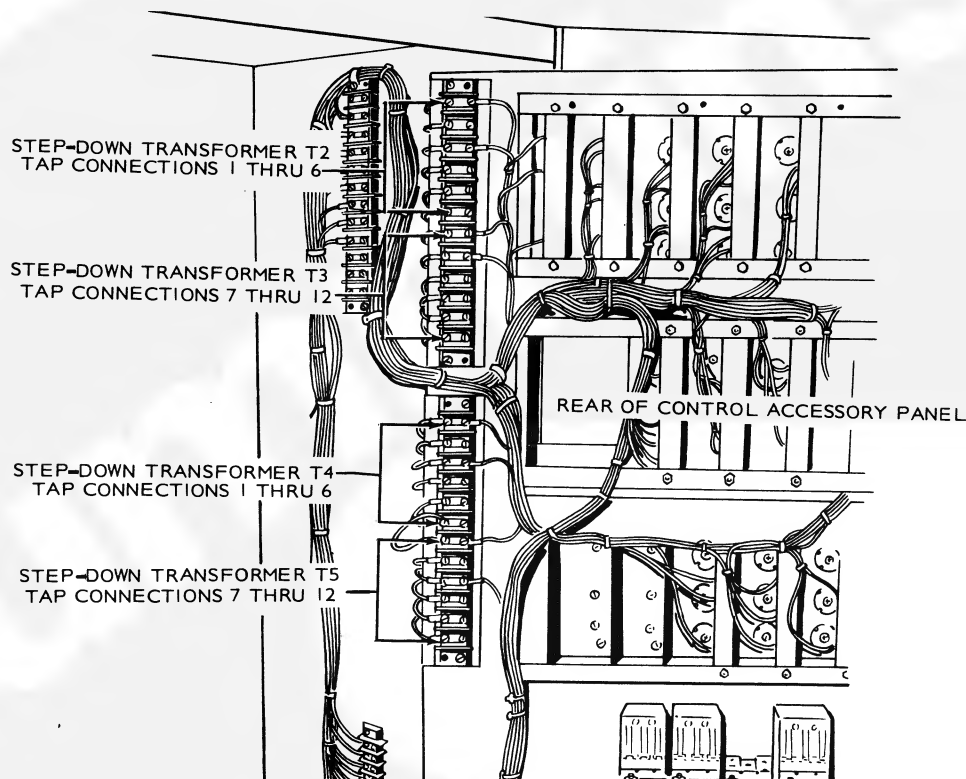

FIGURE 5. AC VOLTAGE CONNECTIONS FOR STEP-DOWN TRANSFORMERS
6. Rewire the stepdown transformers T2, T3, T4, and T5 using the wiring diagram furnished with the control accessory panel. Change the wire lead connections on the right side (facing panel rear) of the terminal strip for the transformers. See Figure 5.